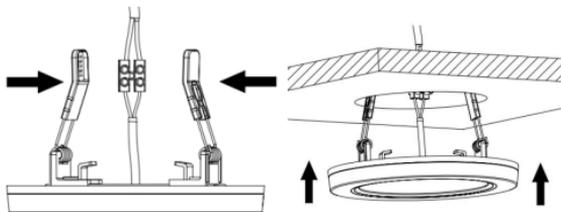

Fig. 6
- Assemble the luminaire to the bracket by turning clockwise until ends of brackets sit within grooves of casing (see Fig. 6)
- Lift both springs and fit into the ceiling (see Fig. 6)